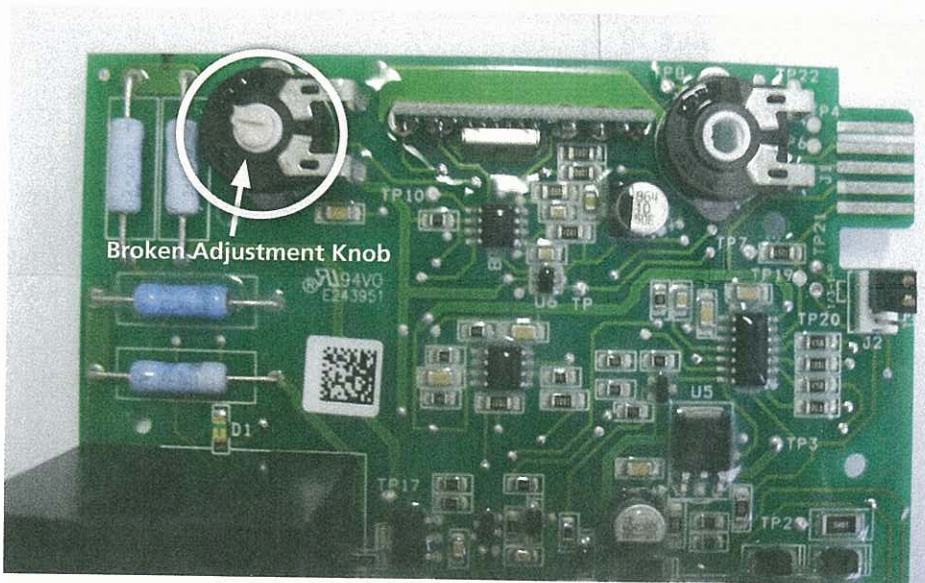

Figure 5
5. If one or both of the adjustment knobs are damaged or broken (Figure 5) while attempting to remove follow the procedure in step 9.